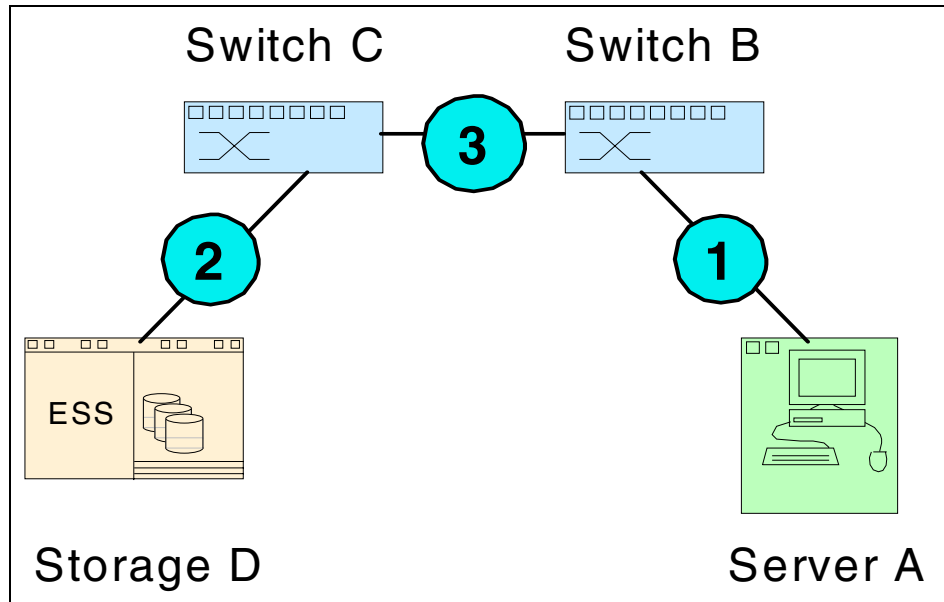

Figure 10-1 A simple fabric
In Figure 10-1 we show an example of a fabric that we will use to give some troubleshooting tips.
Looking at Figure 10-1 on page 435, you will see there is at least one switch in each link segment from server to storage. Switches are the devices where you will get the most information. The switches are the focal point of SAN management software and switches, as provider of the fabric service, hold most of the vital SAN data: so, switches are the obvious place to look at to perform problem determination (PD) and problem source identification (PSI).